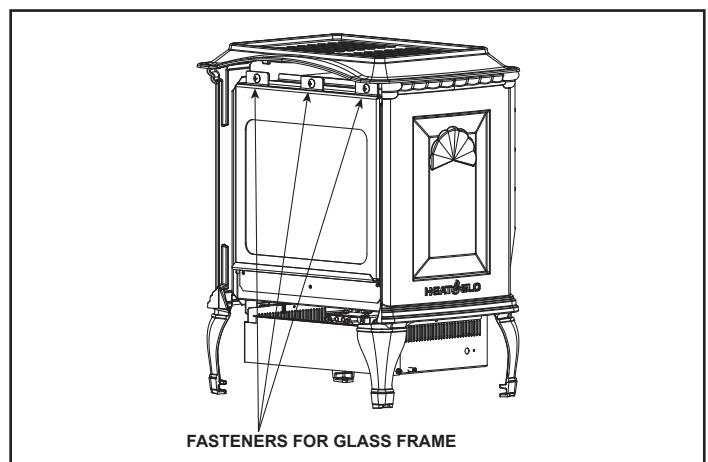

Figure 4.2 - Remove Glass Frame
- Remove three Phillips head fasteners at top of glass assembly. See Figure 4.2.